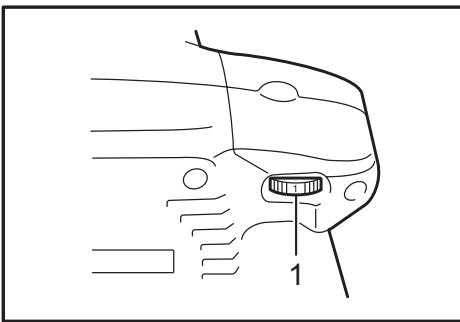

Fig.2
- Fig.2: 1. Speed adjusting dial